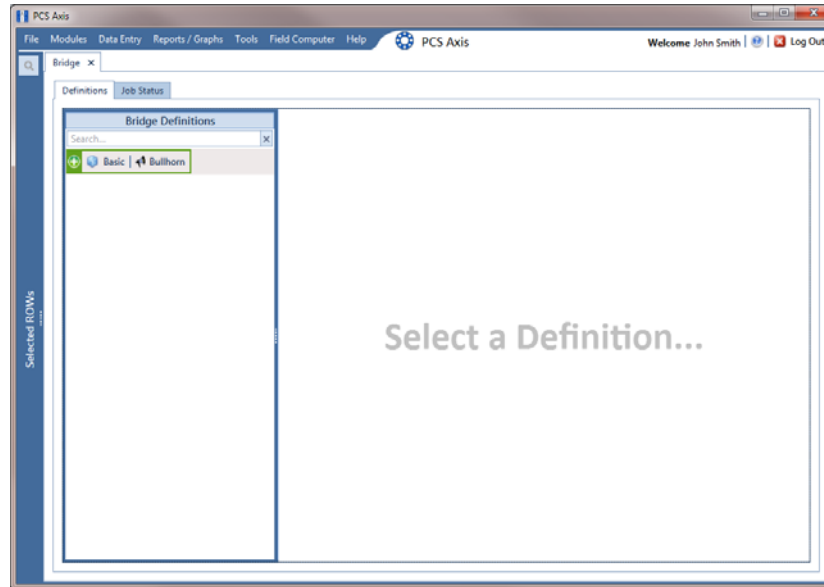

Figure 10-41. Bridge
- 2 Click **Tools** > **Bridge** to open the *Bridge* window (Figure 10-41, page 490)